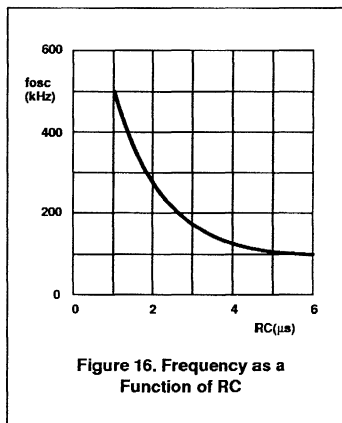

Figure 16. Frequency as a Function of RC
**1.7.3 RC Oscillator** (see Figure 16)